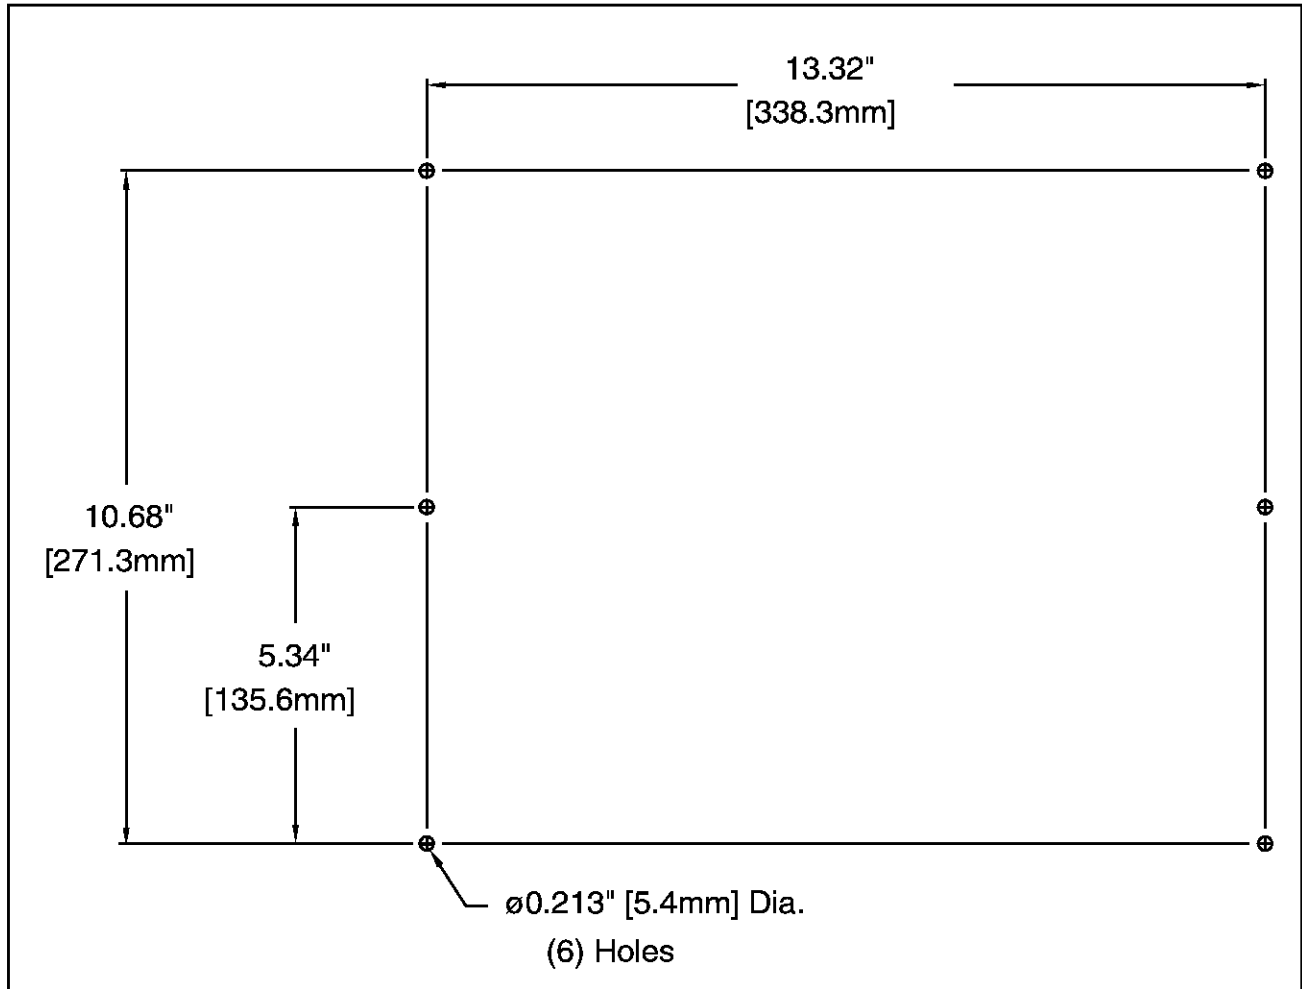

Figure 1 – Mounting Hole Pattern for the Inverting Fault Circuit Breaker Assembly
Step 4. Drill the holes (5.4 mm diameter) for the six (6) M6 self-tapping screws [Item 2] provided for the Inverting Fault Circuit Breaker assembly [Item 1]. Use the mounting hole pattern shown in figure 1.
- a. Drive the top two (2) M6 self-tapping screws half way into the holes drilled in step 3.
- d. Install the four (4) remaining M6 screws.